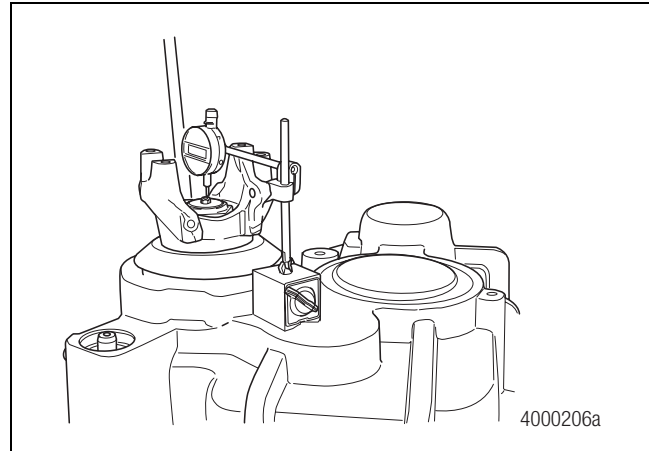

Figure 6.8
3. Use a suitable dial indicator setup and pry UP on the yoke to determine bearing end play. End play should be 0.002-inch $\pm$ 0.001-inch (0.050 $\pm$ 0.025 mm). To obtain a consistent reading, perform this operation two or three times. Record the reading for this shaft. Figure 6.8.